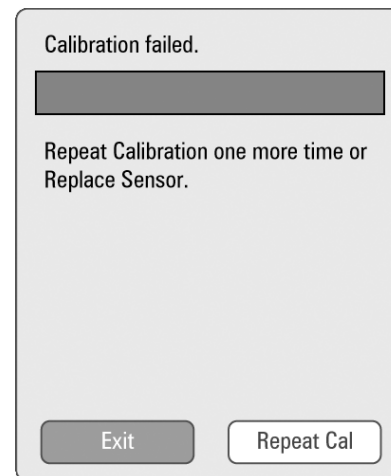

FIGURE 2-9 Oxygen Sensor Calibration Failed
- **If the calibration fails**, the screen shown in FIGURE 2-9 will be displayed, instructing the user to either repeat the calibration (by selecting the **Repeat Cal** button) or to replace the oxygen sensor. If the oxygen sensor must be replaced, select the **Exit** button, replace the oxygen sensor, and then repeat the calibration.